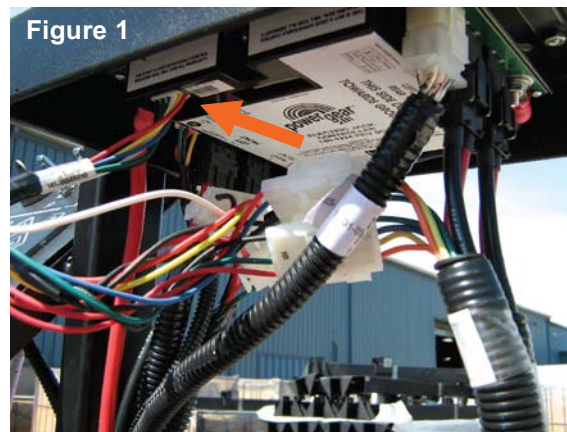

Figure 1
1. The sensor harness is plugged into the leveling controller (*see figure 1*).